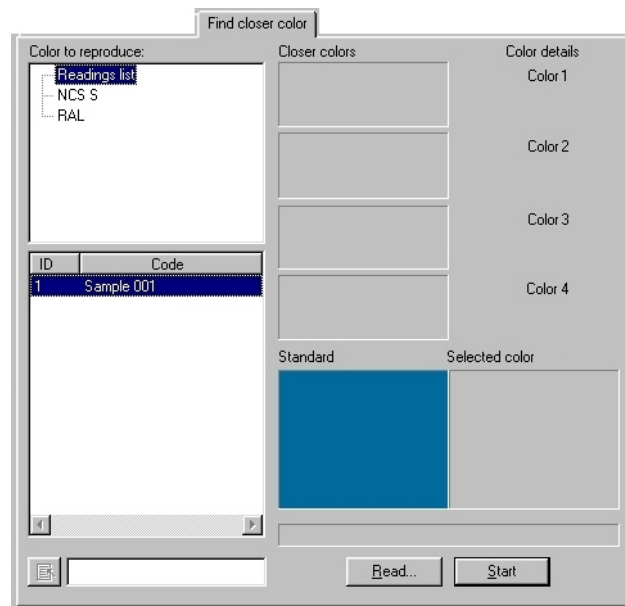

Figure 23
- Select the folder **Readings list** that appears in the section **Color to reproduce**, then the name of the reading in the section below (Figure 23). To search quickly for the reading name, type the code in the text box at the bottom of the window. To change the type of sorting of columns, click the header box of the column to sort. The folder **Readings list** appears only after at least one reading with the instrument has been done (chapter "Using the color measuring instrument" on page 60).